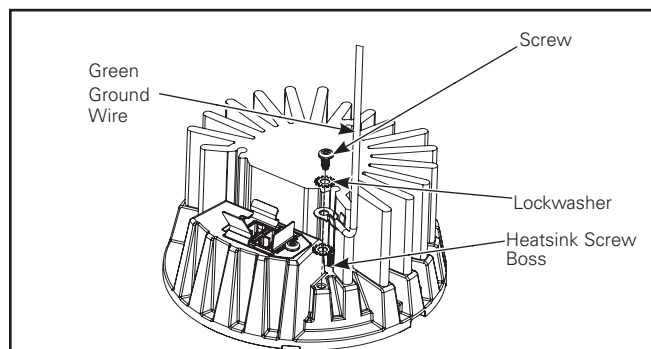

Figure 13.
- Find the green tether inside cylinder and attach it to the heatsink using the screw and lock washer located in the envelope attached to the tether. (Figure 13.)